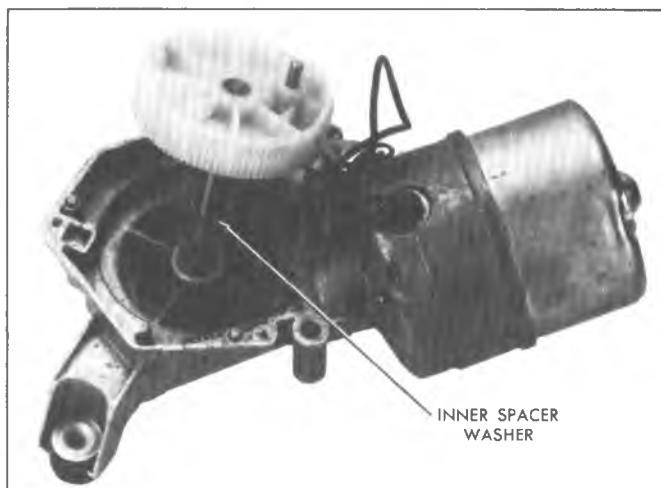

Fig. 28-Drive Gear Removal
5. Slide the gear assembly out of the housing and remove the inner spacer washer (fig. 28).